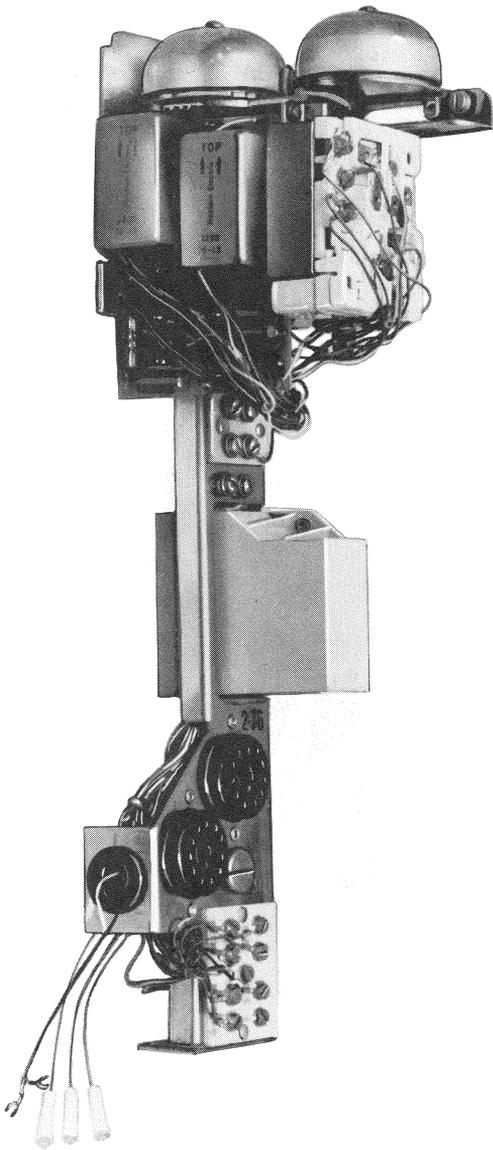

Fig. 18—31A Coin Chassis—For Use in 1C/2C-Type Sets
3.19 The 1A (SF) coin chassis used in 1C/2C-type sets can be replaced with a 31A (DF) coin chassis (Fig. 18).